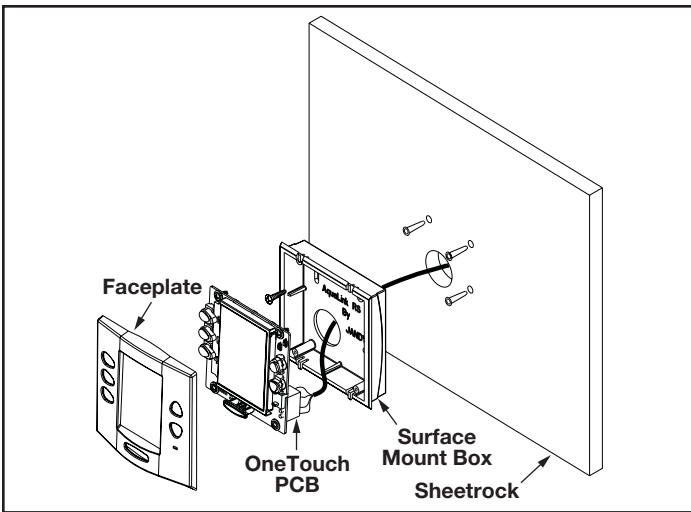

Figure 24. OneTouch™ Surface Mount Installation
3. Run the 4-conductor cable from the power center to the location of the control panel (see Figure 24).